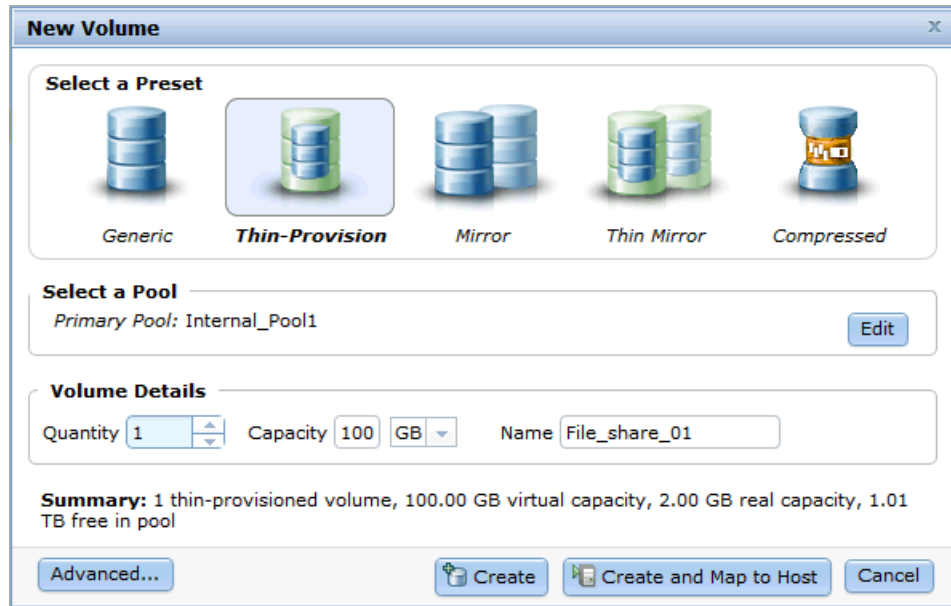
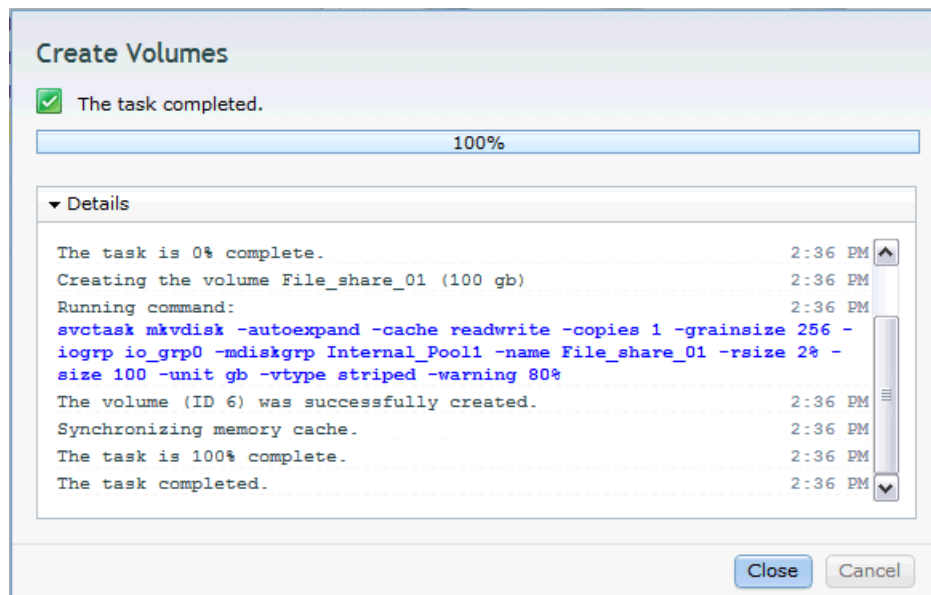

Figure 6-7 Enter the volume name and size
Figure 6-9 Create a thin-provisioned volume - CLI command displays
2. Select the pool in which the thin-provisioned volume should be created by clicking it and entering the volume name and size (Figure 6-7).
Make your changes, if required, and click **OK** to return to Figure 6-7 on page 261.
5. In Figure 6-7 on page 261, click **Create** and the creation task completes as shown next in Figure 6-9.